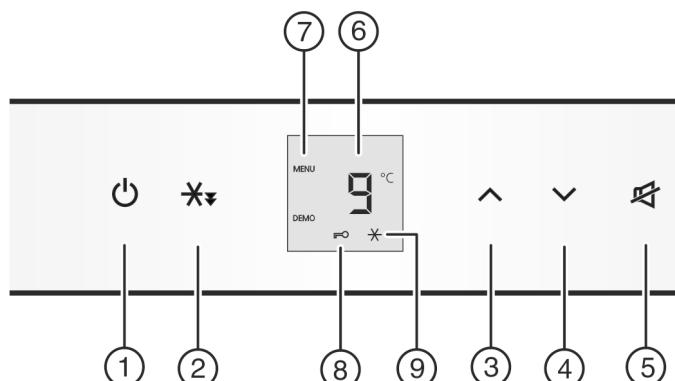

Fig. 2
- Press On/Off button *Fig. 2 (1)*.
► To activate setting mode: Press and hold the SuperCool button *Fig. 2 (2)* for approx. 5 s.
- To switch on the child-proof lock, press the SuperCool button *Fig. 2 (2)* briefly.
- ▷ The child lock symbol *Fig. 2 (8)* shines. **c** flashes in the display.
- To switch off the child-proof lock, press the SuperCool button *Fig. 2 (2)* briefly.
- ▷ The child lock symbol *Fig. 2 (8)* goes out. **c** flashes in the display.
- To deactivate the set-up mode: press On/Off button *Fig. 2 (1)*.
- For a higher temperature setting: press Up button *Fig. 2 (3)*.
- For a lower temperature setting: press Down button *Fig. 2 (4)*.
- Briefly press the Quick Cool button *Fig. 2 (2)*.
- ▷ The QuickCool *Fig. 2 (9)* symbol lights up on the display.
- ▷ The Quick Cool *Fig. 2 (9)* symbol dims on the display.